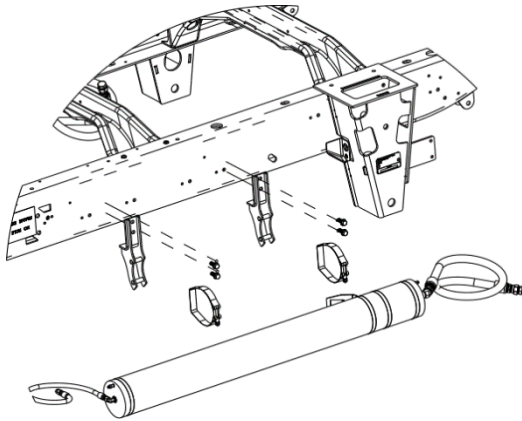

Figure 25. Left Hand Volume installation.
7. Raise the volume assembly until the volume contacts both mounts. Rotate the volume assembly until the bleed screws are located to the top and as vertical as possible. The Rate Valve and Guard should be perpendicular to the side of the frame, pointing inboard, under the frame rail. See Figure 25.
8. Locate (2) T-Bolt Clamps, open the mounts, and place them in the mounts, around the two pegs.